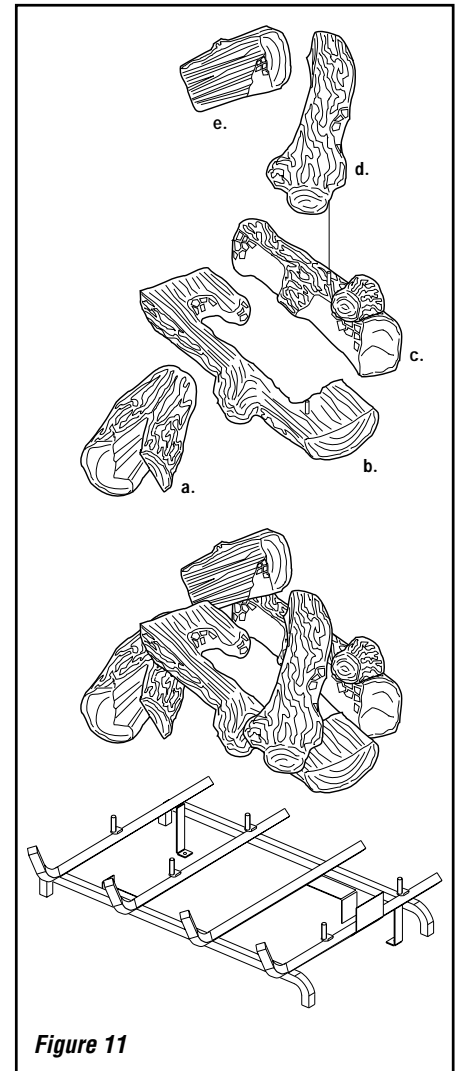

Figure 11
These appliances are equipped with a beautifully crafted five (5) piece ceramic fiber log set. The logs, shown in *Figure 11 on page 8*, are to be positioned precisely as shown. Any modification to the to the lay of these logs may result in sooting, property damage and injury or death.
Step 1. To position the logs, begin by placing the rear log (c) in position over the two pins located at the right center rear and right rear of the log grate (*refer to Figure 11*).
When properly positioned the logs should appear as illustrated in *Figures 11 and 12*. Logs must not impinge any of the flames.